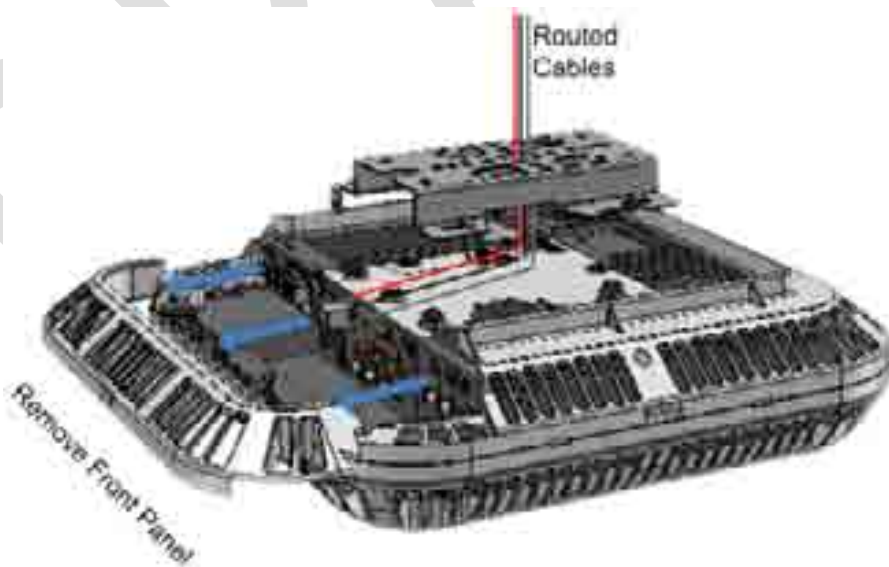

Figure 5-78. Route Cables towards RAU Connectors
3. Pull the front panel and remove to access connectors. See Figure 5-78.
4. Route the cables over the top of the RAU and towards the front panel connectors, where the bracket will be located. (The cables will be routed between the RAU and the bracket). See Figure 5-78.
5. Pull the front panel and remove to access connectors. See Figure 5-78.